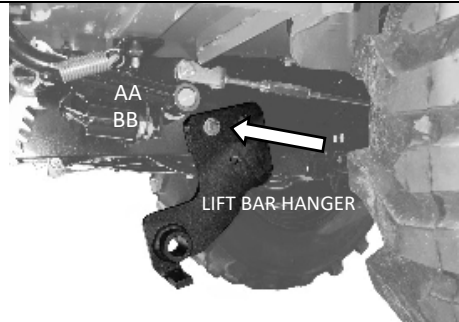

Figure 3A
2. Use bolt BB and washer AA (one each) to install the Lift Bar Hanger (item 15) as indicated, figure 3A.